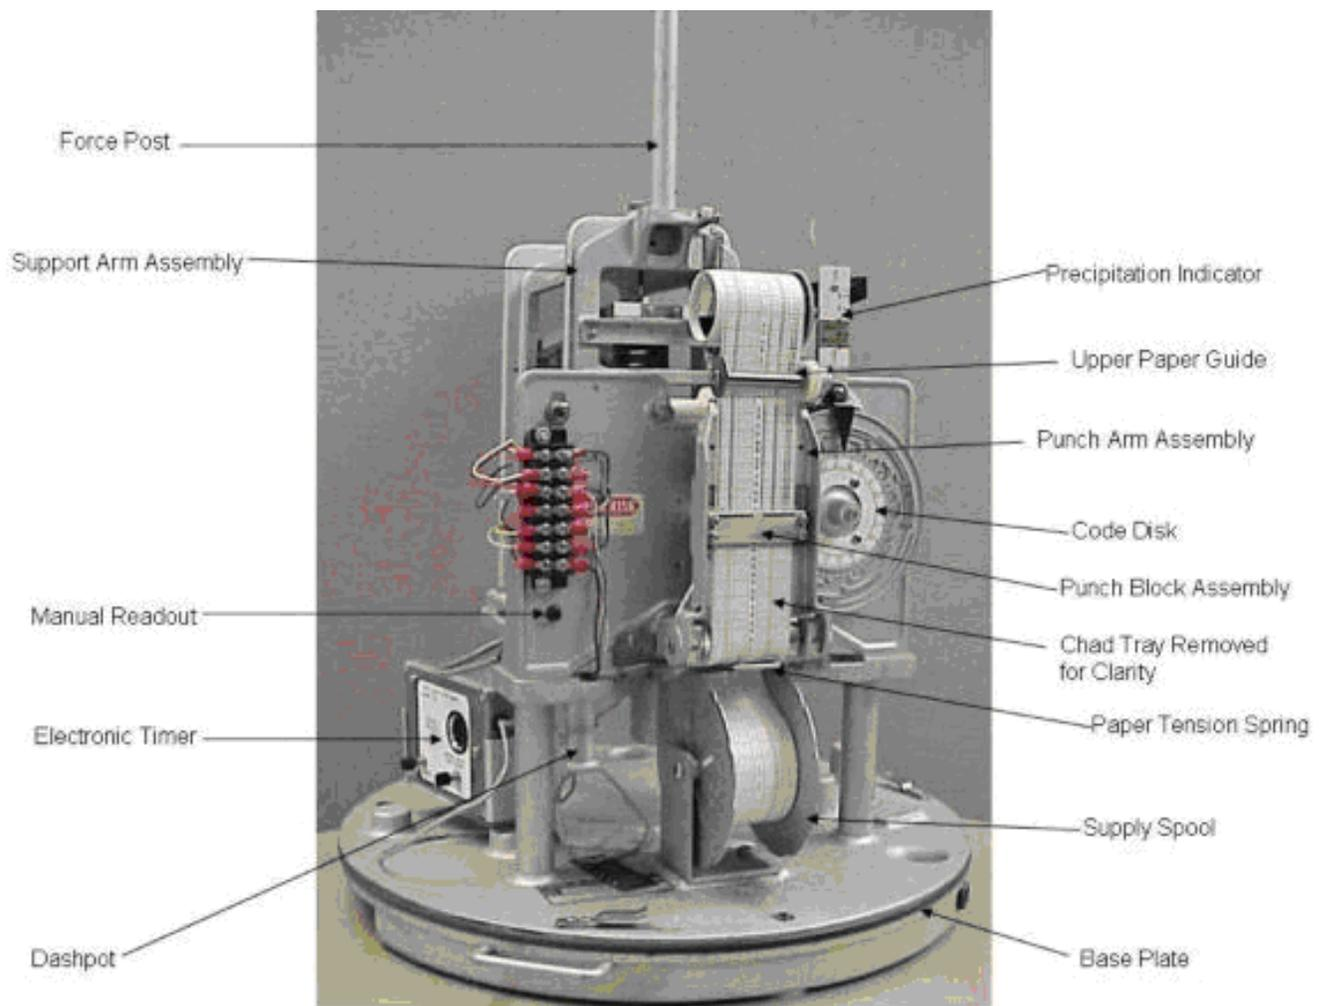

Figure A-2: F&P Gauge
1. Remove the F&P conical hood, bucket, and casing housing. Empty, clean, and dry the bucket. The legacy rain gauge recorder is now accessible and ready to be disassembled (see Figure A-2).